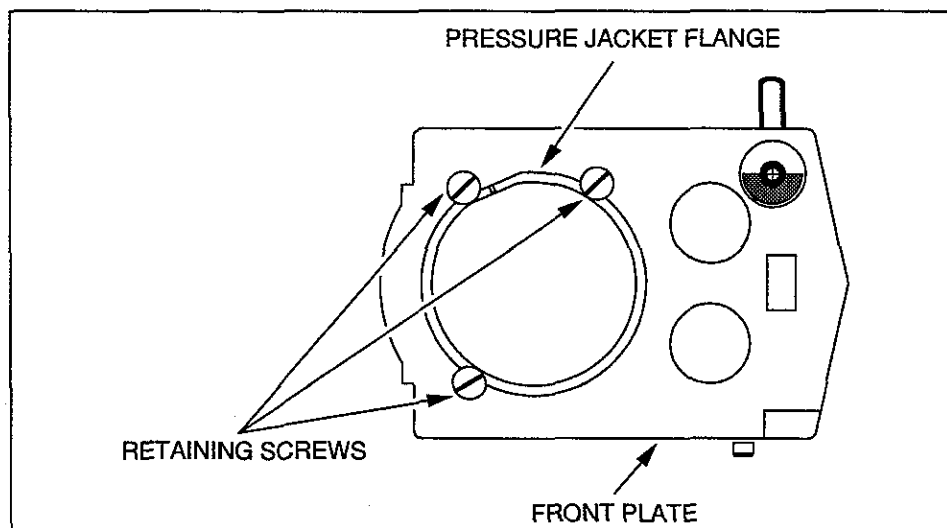

Figure 2-5
2. Rotate the pressure jacket counterclockwise (if viewed from behind the plate) until the pressure jacket flange engages the retaining screws and locks in place. See Figure 2-5.